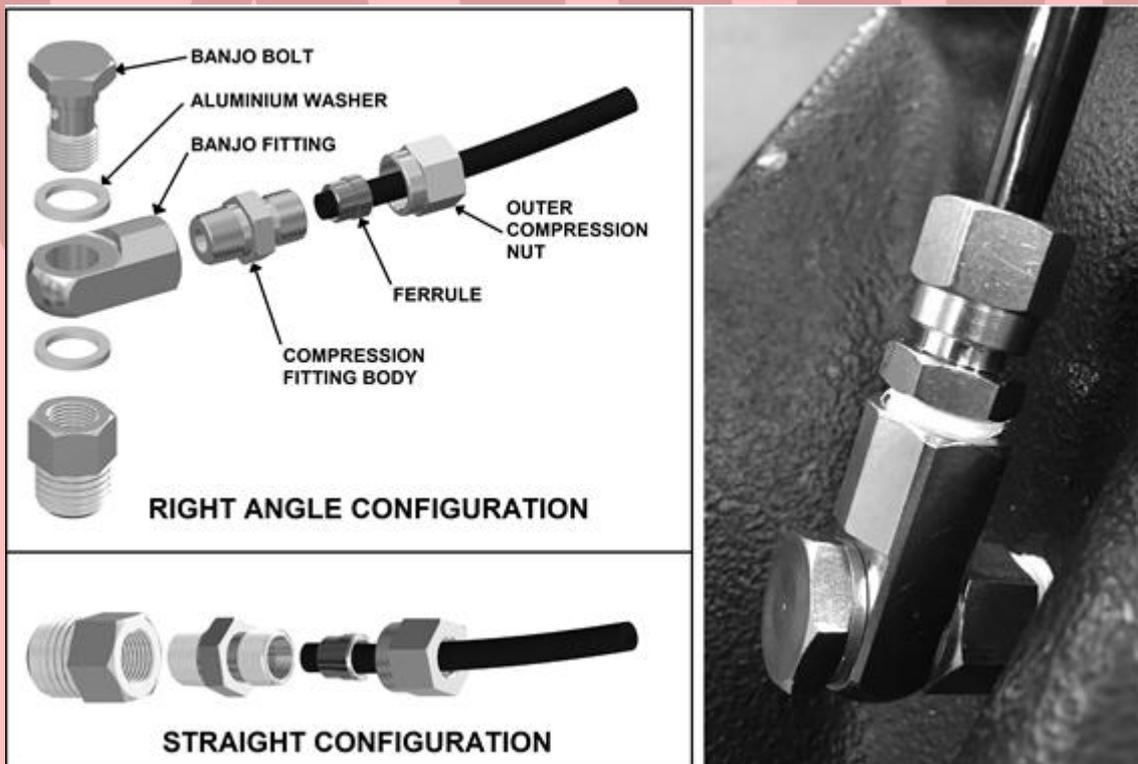

Figure 13. Air Locker bulkhead fitting assembly (170114)
- Insert the outer compression nut and ferrule over the air line. Ferrule should be oriented as per Figure 13.
NOTE: When right angle routing of the tube is not required, screw the compression fitting body straight into the bulkhead fitting body (Figure 13).